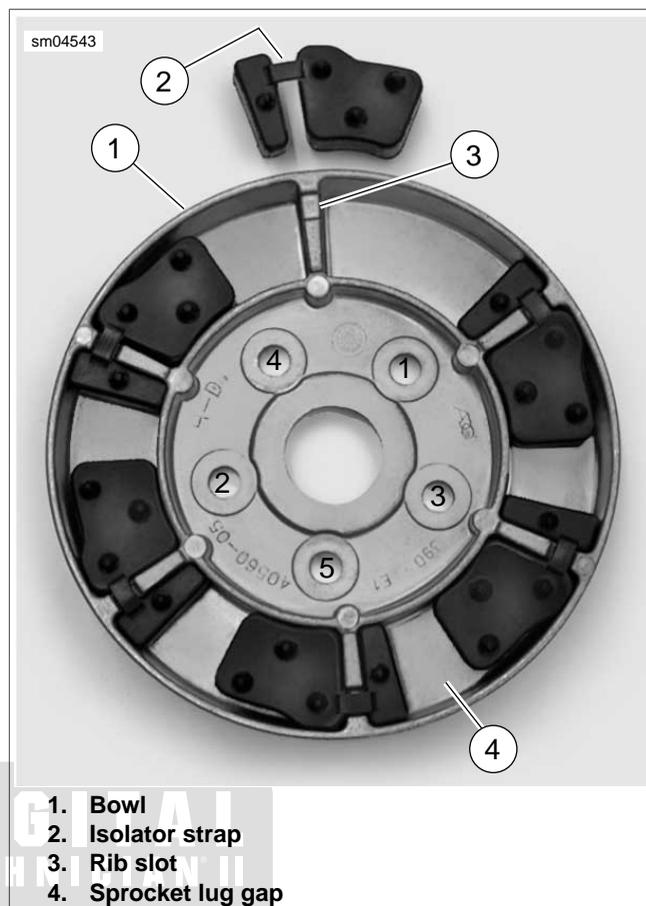

Figure 2-9. Install Isolators in Bowl
- b. Alternately tighten hex screws to 55-65 ft-lbs (74.6-88.1 Nm) in the pattern shown in Figure 2-9.